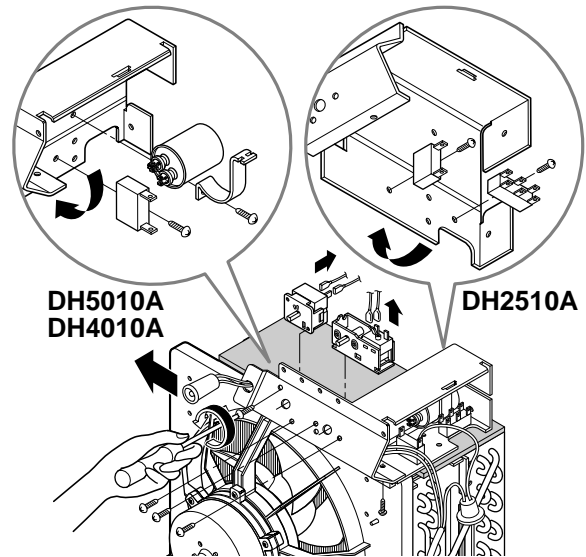

Figure 9
1. Unfasten a screw located in the lower side of control box assy(DH2510A) then stretch control box like figure 9.
Remove each screw located in the lower side of Control box assy and fastens Capacitor clamp then stretch Control box assy like figure 9. (DH5010A/DH4010A)
1. Remove each screw that fastens Capacitor and Terminal block after control box assy is stretched as like figure 9.